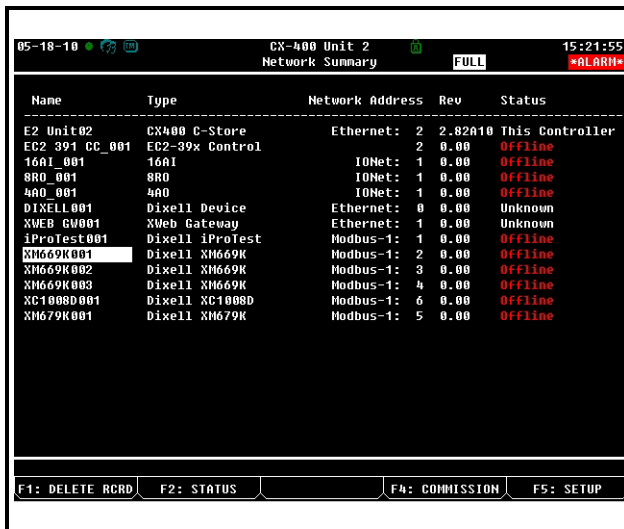

Figure 18-6 - Network Summary Screen
- When finished, press **ESC** to return to the *Network Setup* menu, then press **1** - **Network Summary** (Figure 18-6). Locate the devices you set up, and look at each device's status in the **Status** field. You will see one of the following messages: